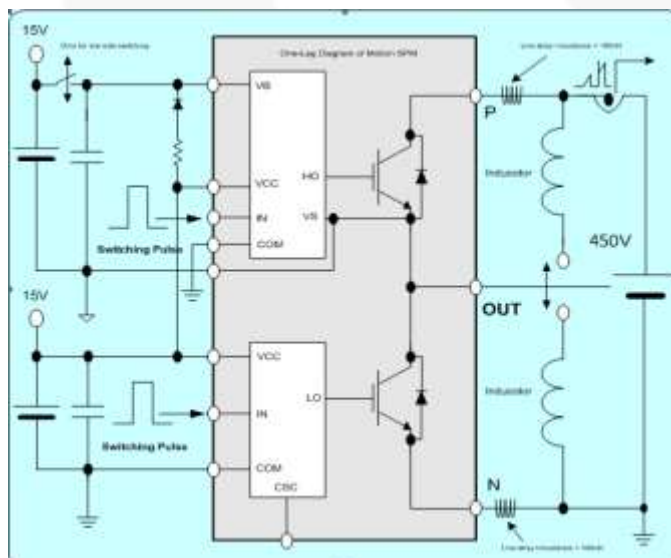
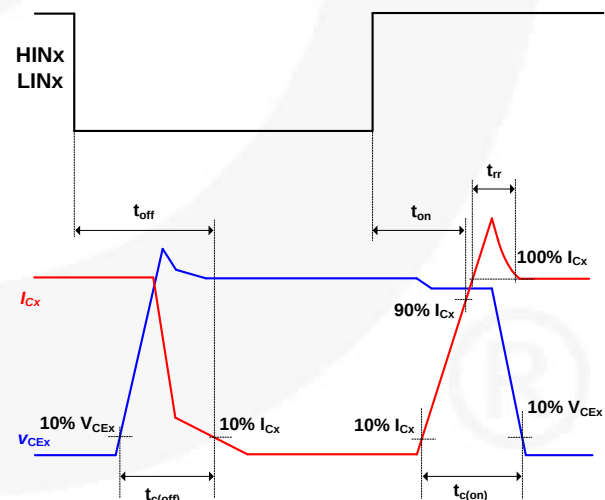

Figure 5. Switching Evaluation Circuit
Figure 6. Switching Time Definition
- t_{ON} and t_{OFF} include the propagation delay of the internal drive IC. $t_{C(ON)}$ and $t_{C(OFF)}$ are the switching times of the IGBT itself under the given gate driving condition. For detailed information, see Figure 5 and Figure 6.